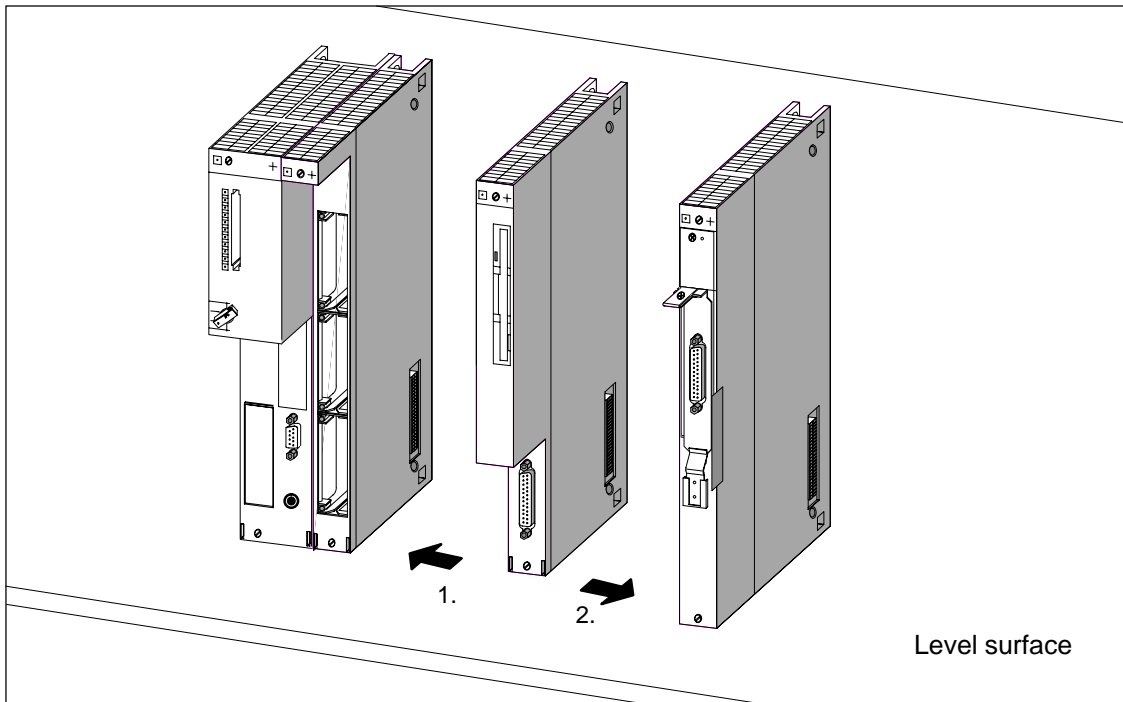

Figure 8-27 Separating the Modules, for Example When the Mass Storage Module is to be Replaced
11. Carefully withdraw the adjacent modules from the module to be replaced. The modules to be separated should be held above the bus connector and pulled apart at the side walls of the modules, so that the ISA bus connection is disconnected (Figure 8-27).